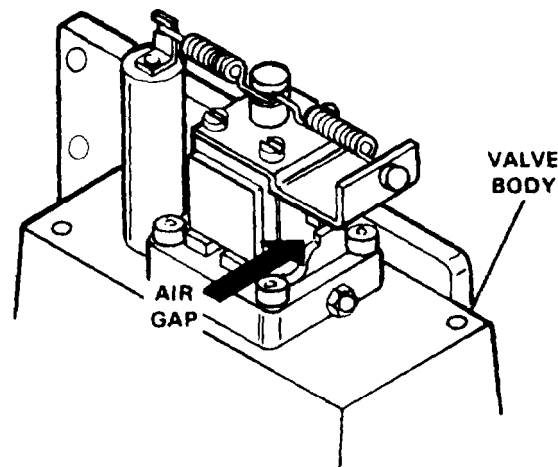

Figure 9B-29. Cleaning the Air Gap
1. Clean bushing (31) and spool (30) by immersing them in a clean commercial solvent.
2. Clean the air gaps of hydraulic amplifier assembly (07) by blowing clean, dry air through the air gaps (see Figure 9B-29).
4. Visually inspect inlet orifice assemblies (12) and replace if damaged or foreign matter is present.
**ASSEMBLY.** Assembly should be performed in as clean an environment as possible. Exercise care to avoid cutting or nicking O-rings when installing them on parts, and when installing parts containing O-rings to prevent subsequent leakage. Assemble the controller as follows (see Figure 9B-30):
1. Install hollow hex plug (17) if it has been removed.
2. Insert all six O-rings (18) on bushings (31).
3. Orient the controller on a clean flat surface in such a manner that the mounting face is away from the assembler. Look in the large center hole in top of valve body (27) and install bushing (31) in the body as shown in Figure 9B-30. Center the bushing pin locating hole directly below this large center hole.